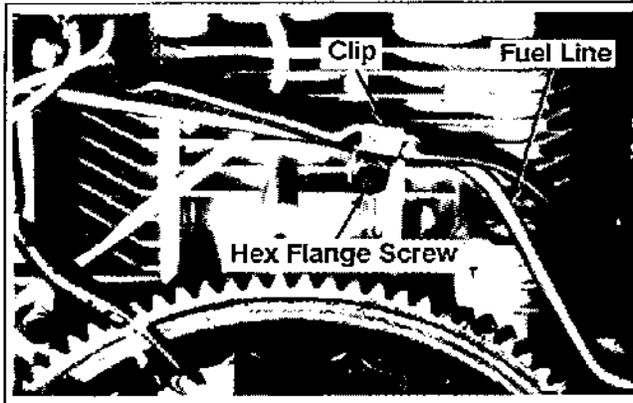

Figure 9-22. Removing Fuel Line.
1. Remove the hex flange screw, clip, and fuel line. See Figure 9-22.